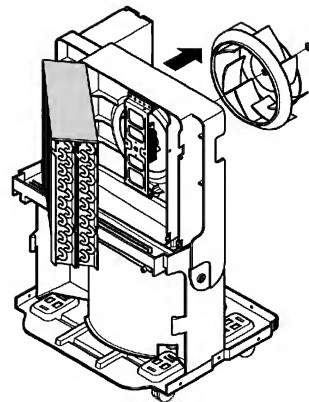

Figure 22
3. Lift the H/E and open the H/E around 45 degree clockwise carefully. (See Figure 22)